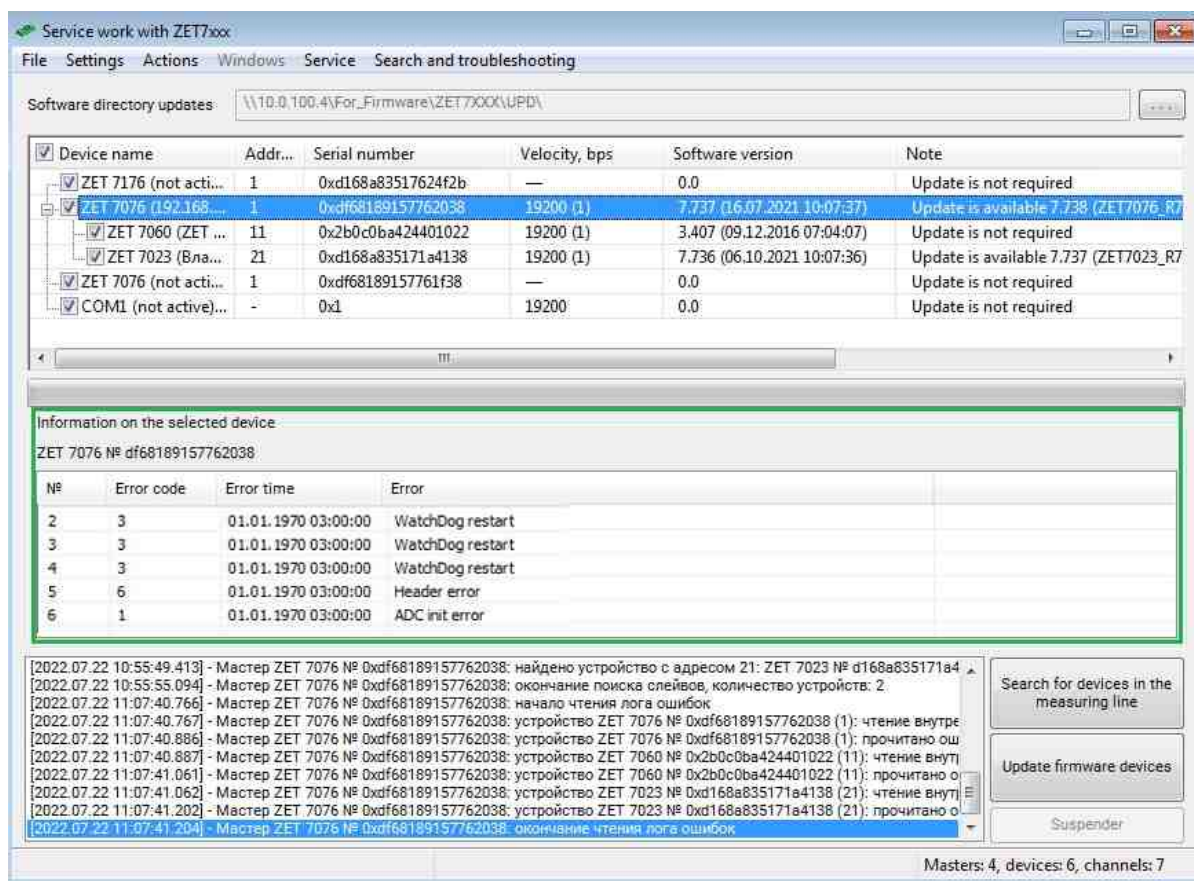

Fig.4.8 Table "Information on the selected device"
3. Click on the name of a digital sensor in the table "Information on the selected device" will display information about the errors of this digital sensor (*Fig.4.8*).